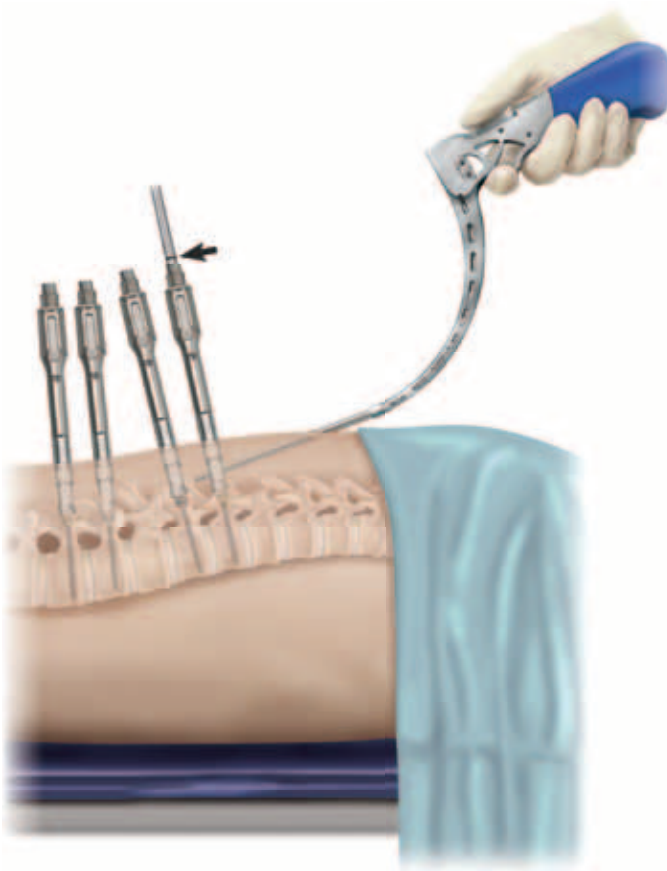

Figure 43
1. Dropping the Rod Confirmation Tool down the shaft of the Extender. If the line is visible, the Rod is through the Extender (**Figure 43**). If the line is not visible, the Rod is not through the Extender.